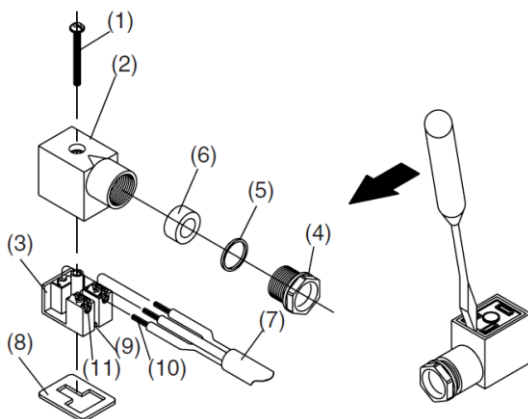

Fig. 1
- 1) After loosening the thread (1), then if the housing (2) is pulled in the direction of the thread (1), the connector will be removed from the body of equipment (solenoid, etc.).
- 2) Pull the thread (1) out of the housing (2).
- 3) On the bottom part of the terminal block (3), there's a cut-off part (9). If a small flat head screwdriver is inserted between the opening in the bottom, terminal block (3) will be removed from the housing (2). (Fig. 1)
- 4) Remove the cable gland (4) and plain washer (5) and rubber seal (6).